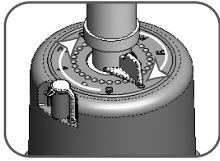

fig. 4
- Using clockwise rotation, adjust the device to the desired back pressure [Positive Airway Pressure (PAP)] level (fig. 4).